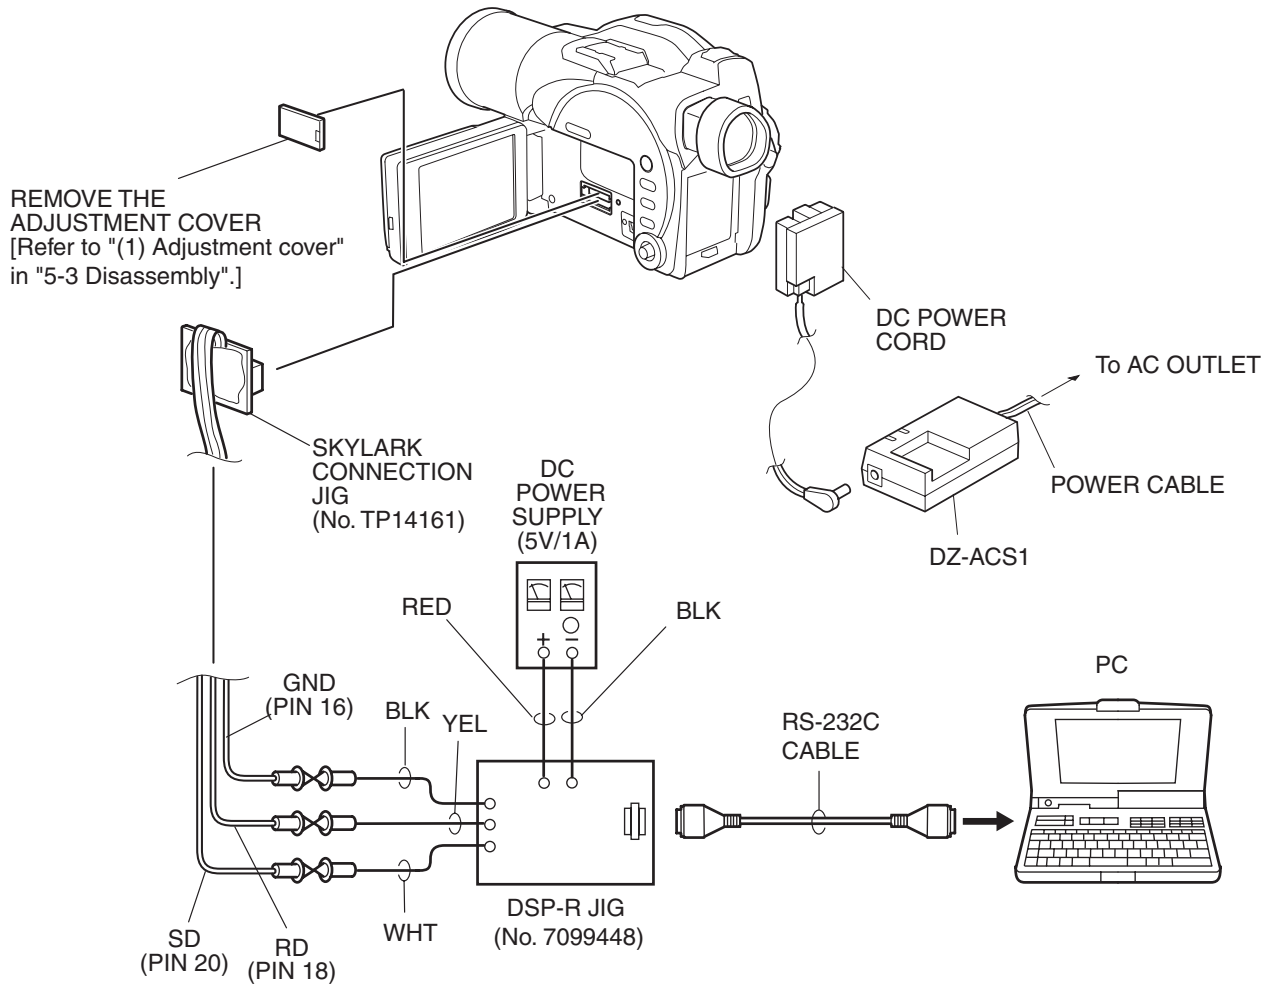

Fig. 4-9-3 Connections when creating backup file of EEPROM data and writing
1) Connect the DVD video camera/recorder, jig/tool and power supply as shown in Fig. 4-9-3.
Completely assemble the DVD video camera/recorder; create backup file of EEPROM data and write it with only the adjustment cover removed (see Fig. 4-9-3).